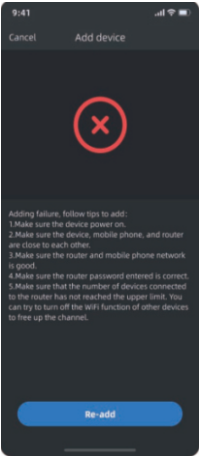

Figure 5
5)Figure 5: Refer to the prompt and add the device again.